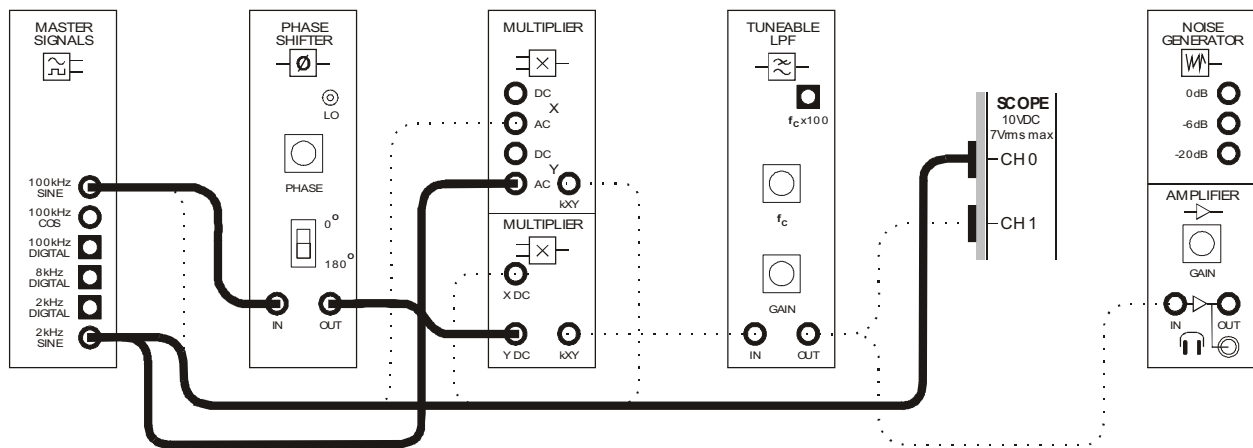
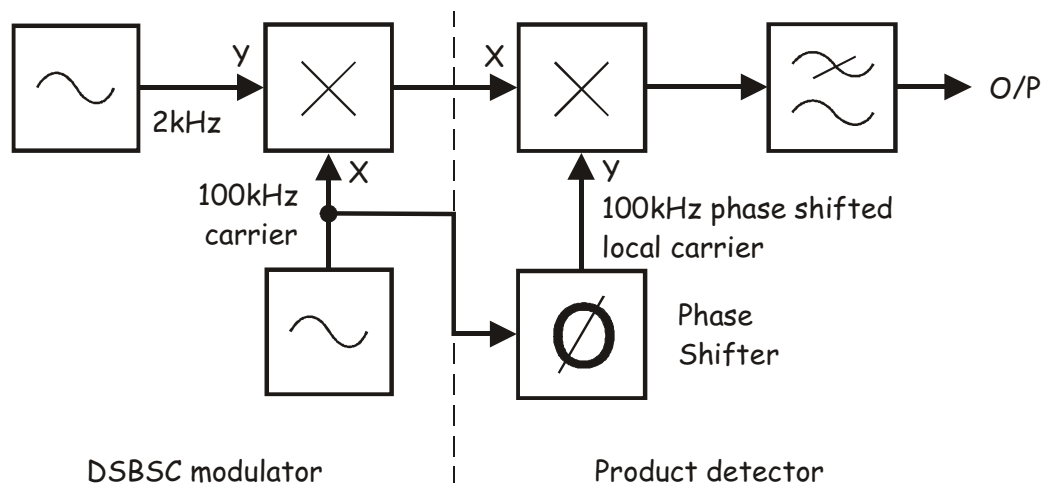

Figure 10
Figure 11
37. Disconnect the leads to the Speech output and modify the set-up as shown in Figure 10 below.
The set-up in Figure 10 on the previous page can be represented by the block diagram in Figure 11 below. The Phase Shifter module allows a phase error between the DSBSC modulator's carrier and the product detector's local carrier to be introduced.